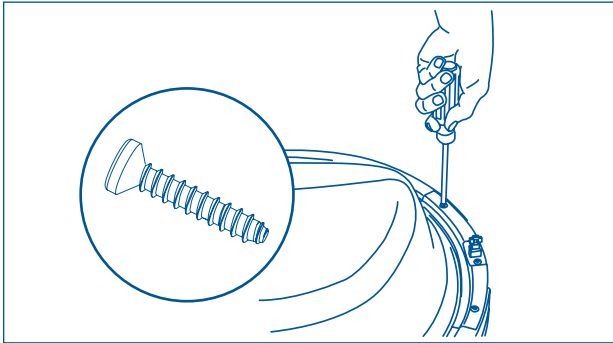

Figure 2-32.
2. Reattach with 2 long, coarse-thread, counter-sunk screws. (See Figure 2-32)